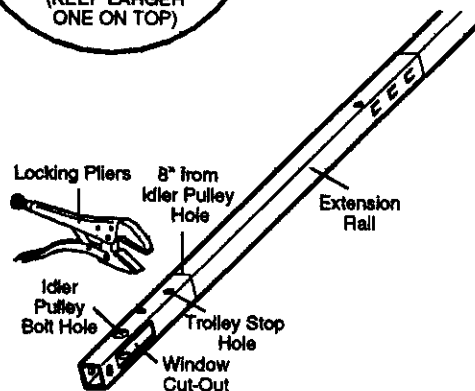

Figure 2
11. As a temporary trolley stop, clamp a locking pliers onto the rail, 8" from the center of the idler pulley hole, as shown in Figure 2. Slide the trolley assembly to this point.